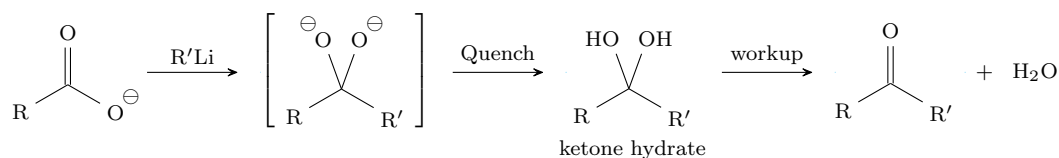

Figure 4.49: Alkyllithium addition to carboxylates.
- First step: Transform the ketone into the carboxylate and R'Li via the reaction in Figure 4.49.